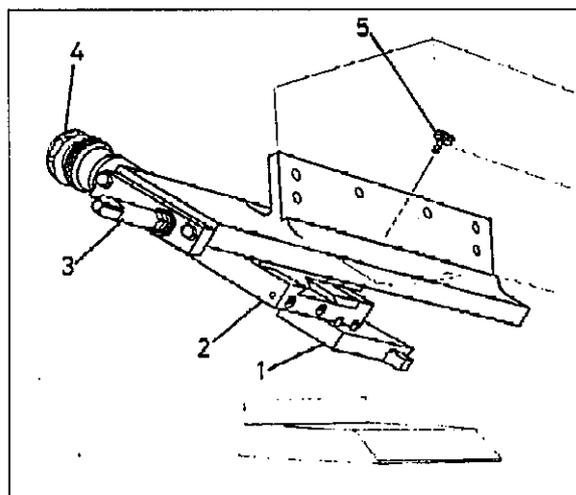

Figure 8.8.4
- 8 Unlock the spindle barrel lock (4) at the rear of the head.
- 10 Rotate adjusting screw (5), using the winding handle provided to position the cutter block.
- 11 Lock the spindle barrel lock (4).
8.8.4 Top Head Jointer (Figure 8.8.4)